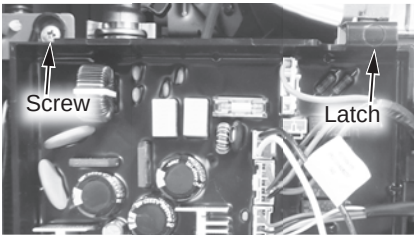

Figure 205 - Control board location
- 12 Locate the two (2) screws at the bottom of the cabinet cover. Use a Phillips screwdriver to remove the screws. Place screws aside in a safe place for reinstallation.
- 14** Locate the screw securing the control board panel as shown in Figure 205. Use a Phillips screwdriver to remove the screw and place it aside in a safe place for reinstallation.